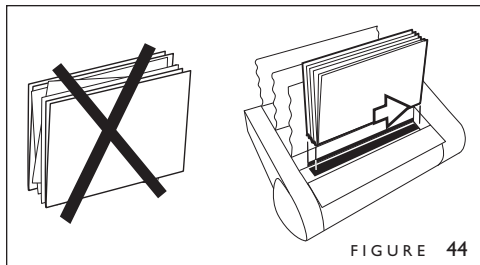

FIGURE 44
5. Tamp your document cover and pages on the front flat surface of the housing so that they are straight. Place the document on top of the strip and slide the document all the way to the right (figure 44).